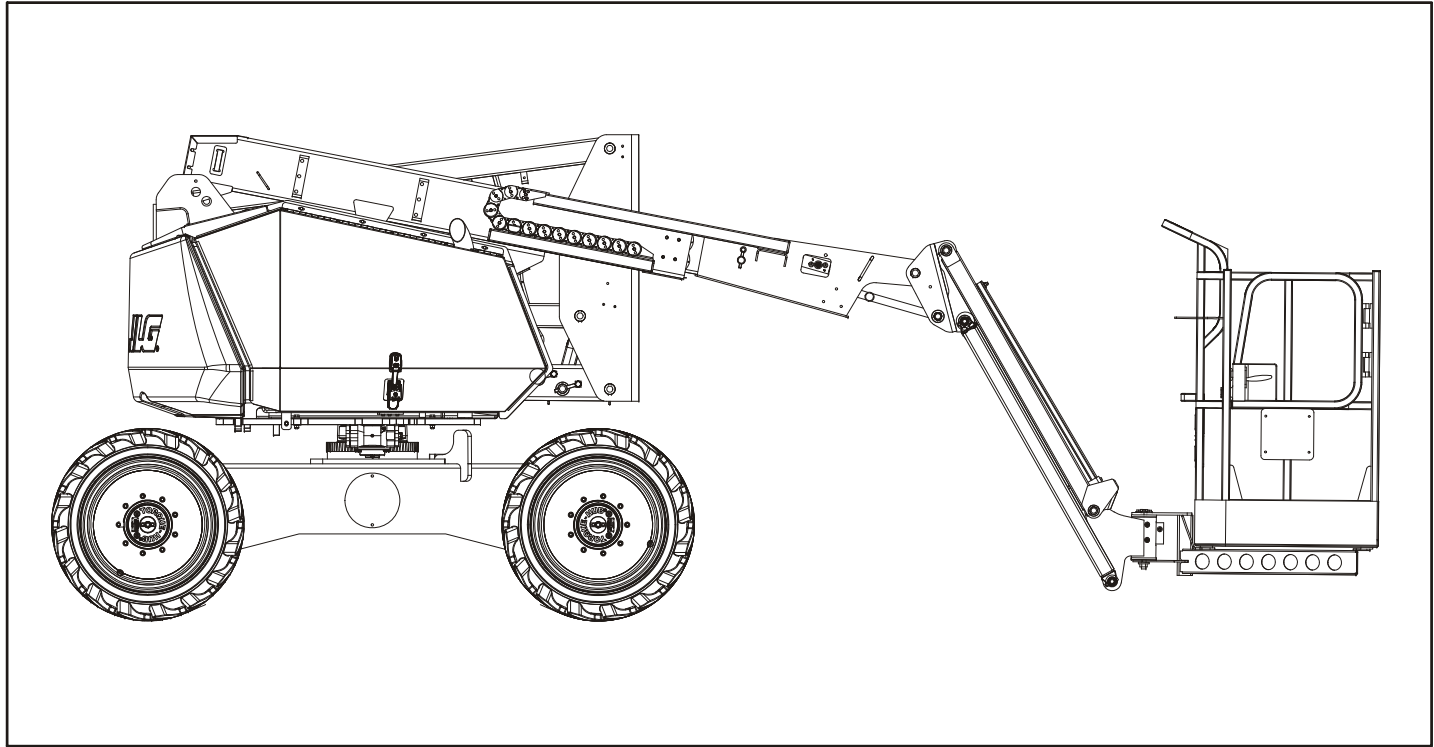
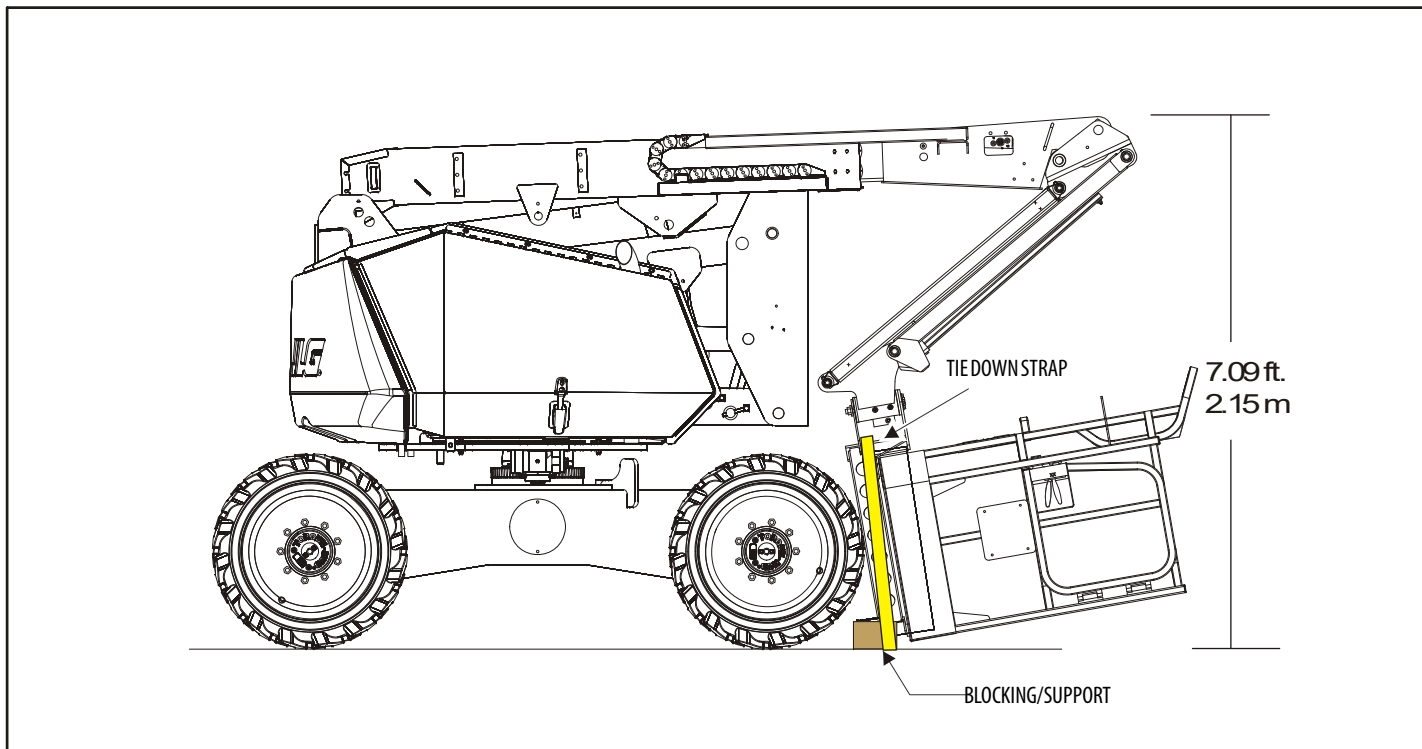

Figure 4-4. Stowed Position
Figure 4-5. Storage Position
See Figure 4-4.
(See Figure 4-5.)
1. Place the machine in the stowed position. Refer to Figure 4-4. From the ground control station, raise the main boom at least to the elevation shown in Figure 4-5. The main boom must be raised to prevent the platform basket from hitting the ground during this procedure.
3. Place blocking under the platform support, lower the platform support down onto the blocking by using Main Boom Lift Down, and tie it down as shown in Figure 4-5.